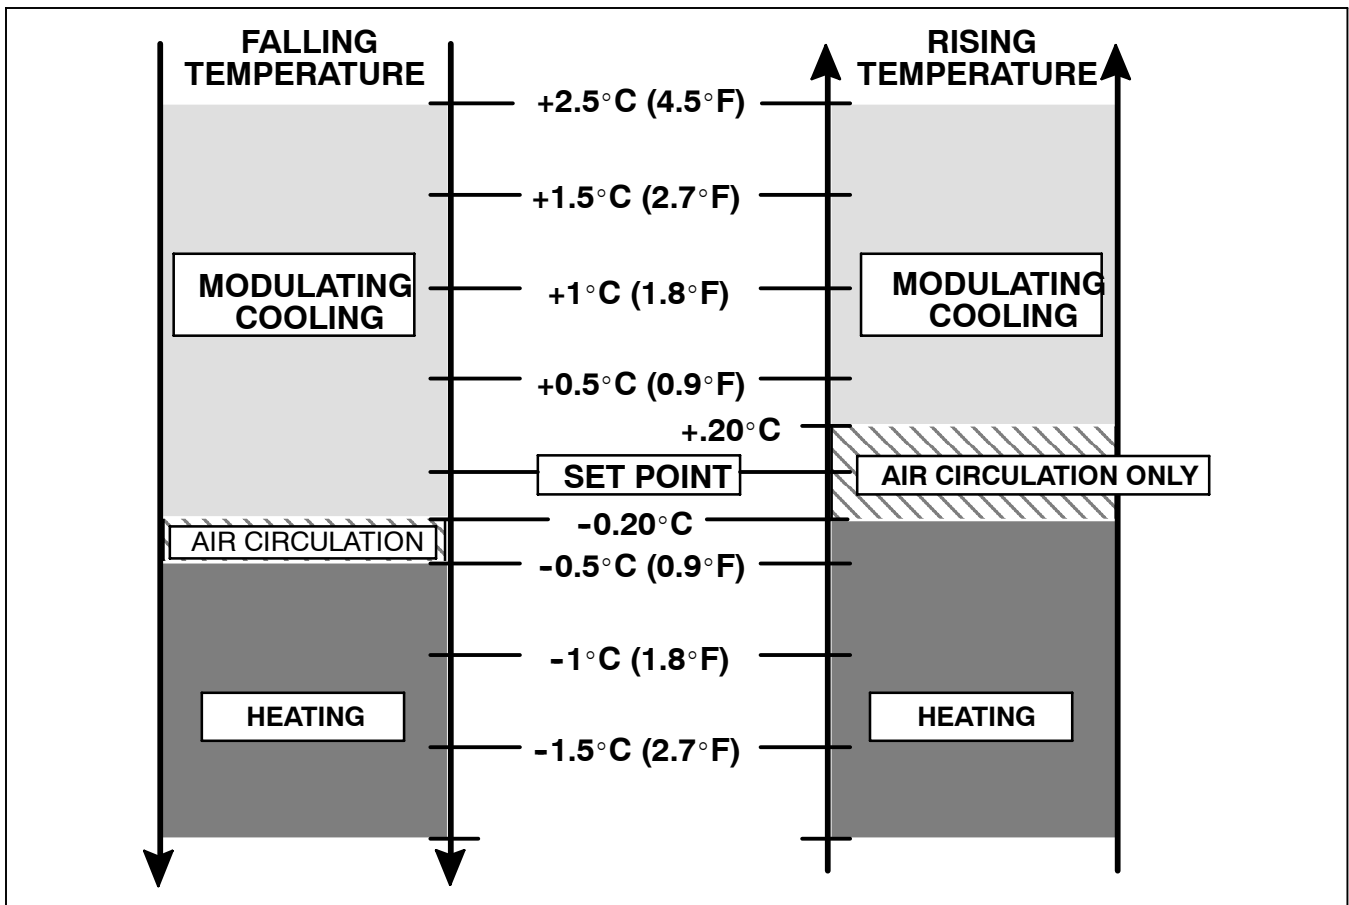
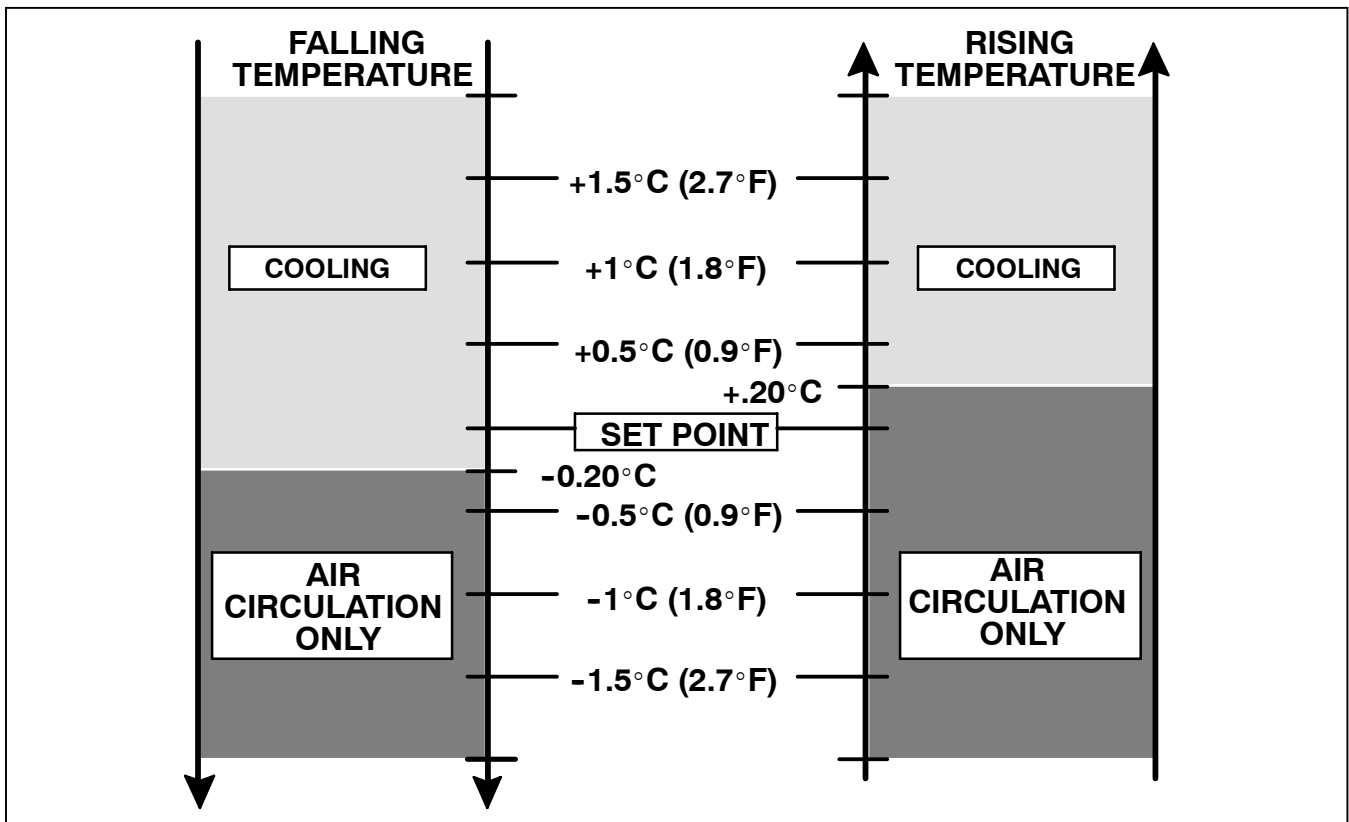
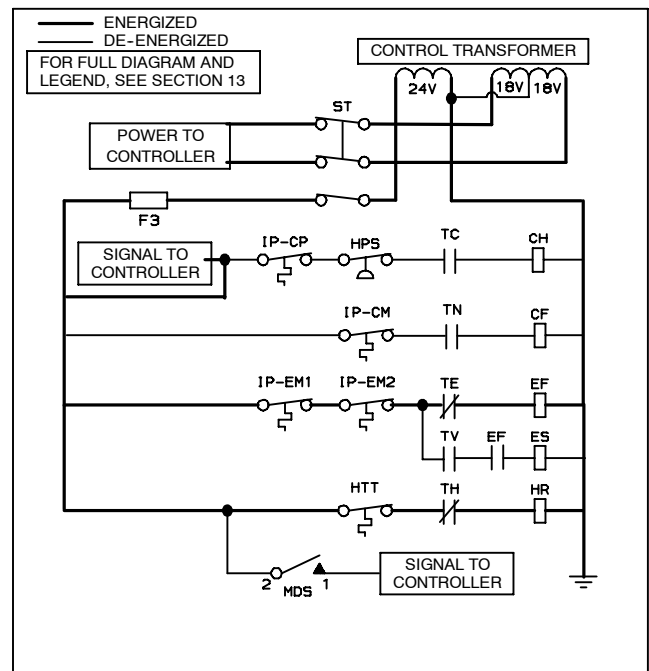

Figure 16. Controller Operation - Perishable Mode
Figure 17. Controller Operation - Frozen Mode
Figure 19. Perishable Mode Heating
General operation sequences for cooling, heating and defrost are provided in the following subparagraphs. Schematic representation of controller action are provided in Figure 16 and Figure 17, page 49. Refer to Section 3 for detailed descriptions of special events and timers that are incorporated by the controller in specific modes of operation. Refer to section 4.11, page 52 for emergency modes of operation.
- As the air temperature continues to fall, modulating cooling starts at approximately 2.5°C (4.5°F) above set point. (See Figure 16)
- If the air temperature decreases 0.5°C (0.9°F) below set point, the system enters the heating mode. (See Figure 16). The controller closes contacts TH (see Figure 19) to allow power flow through the heat termination thermostat (HTT) to energize the heaters (HR). The HEAT light is also illuminated. The evaporator fans continue to run to circulate air throughout the container.